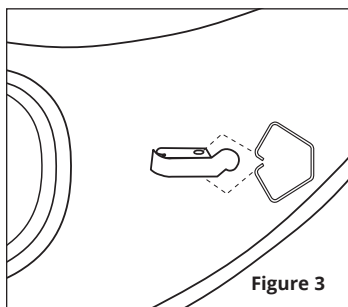

Figure 3
3. Install the new window frame latch onto the original over-center clamp. Position the latch bail into the holes of the clamp as shown (figure 3).